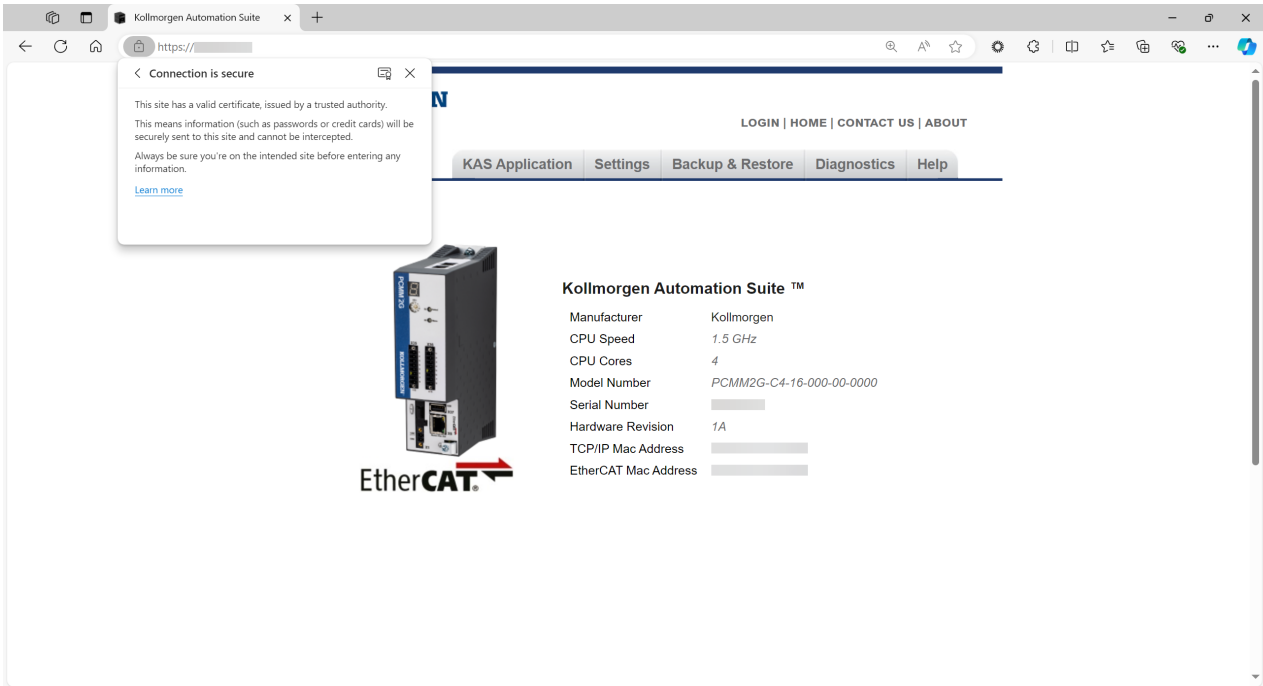

Figure 9-43: Certificate is secure message
37. Click the **Connection is secure** option. The **Certificate is secure** message appears. (Figure 9-43)